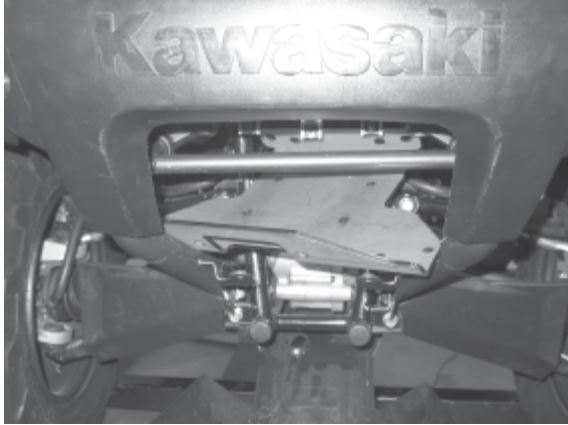

Figure 3 Rear Support Mount Bracket
3. Rotate winch mounting plate, Figure 3. Tilt winch mount forward by raising rear face such that the front right corner clears the front tube guard, Figure 3.